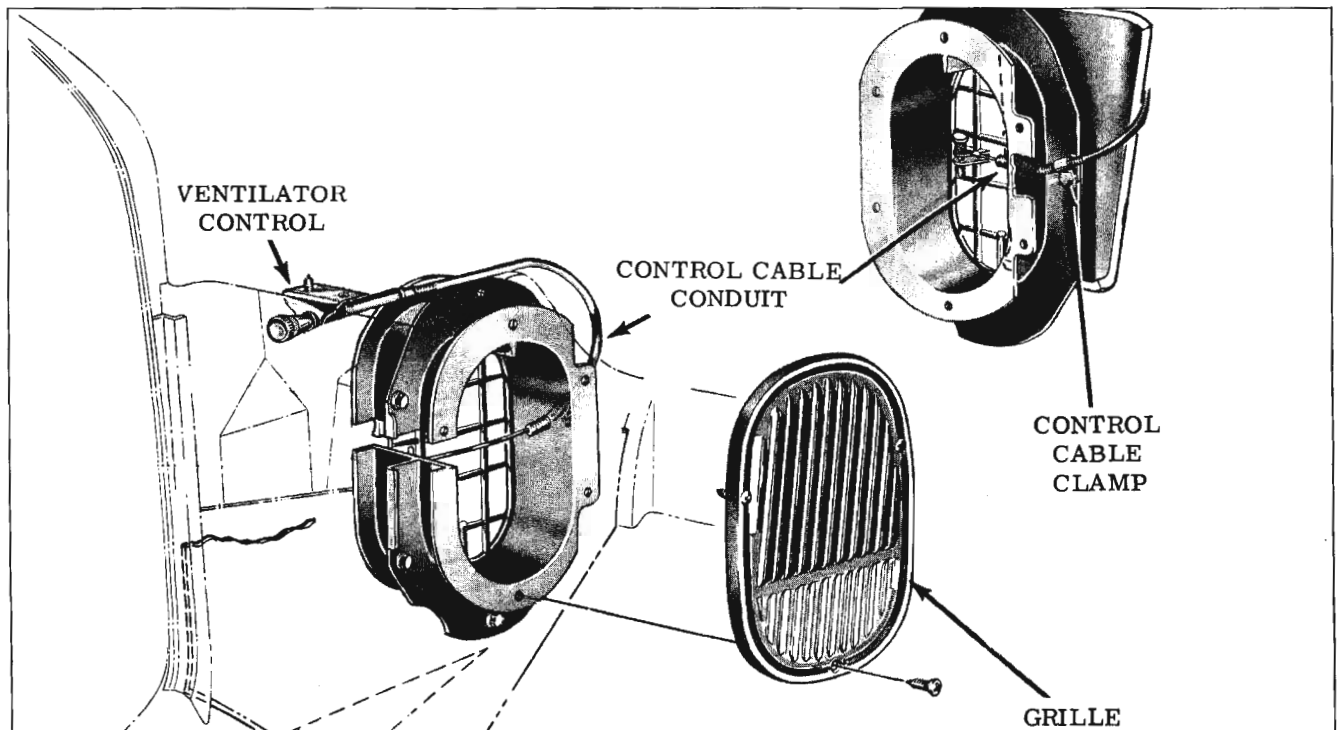

Fig. 16-227 Air Outlet Grille
1. Remove screws (Fig. 16-227) securing upper and lower end of air inlet grille.
2. Remove end of control cable from door pin. (Fig. 16-227)